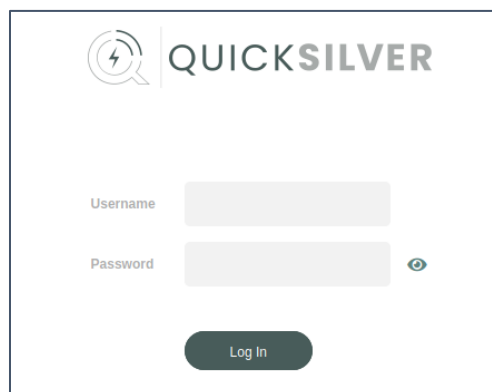

Figure 5: Quicksilver Log-in Page
6. Sign into the website with the default username “admin” and default password “Password!” when prompted, as shown in **Figure 5**.